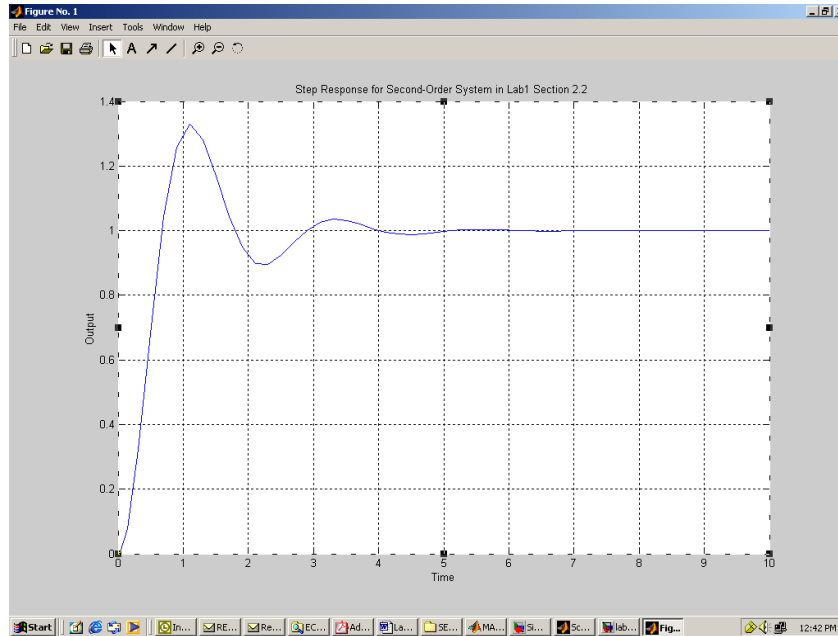

Figure 11. Matlab Plot Using Simulink-Generated Data
2.2.7 Make a Matlab Plot. Go to Matlab window and type **whos** at the command prompt. You will see the data arrays that Simulink generated during the simulation with the names you assigned during the setup. If you want to see this data, just type the name of the array at the command prompt. Make a plot of your data. It should appear as in Figure 11. Use the command: **>>plot(Time,Output)**. Add axes labels and a title to the plot.